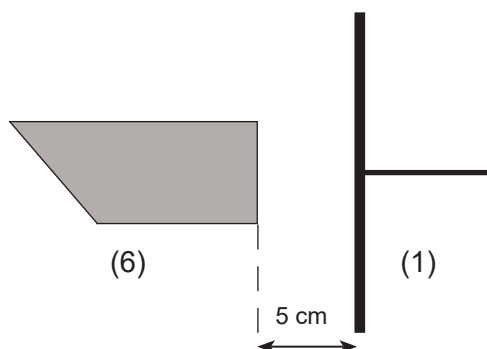
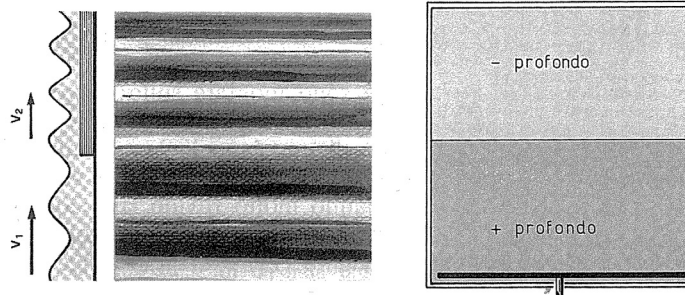

Fig. 9
Fig. 10
Check that the water depth is 1 cm. Then repeat experience No. 2, but place the trapezoidal body (6) on the bottom of the tank, in the position shown in figure 9. Where the body is placed, the water is shallower, so the speed of the waves is lower and, according to (1), the wavelength is shorter (fig.10).